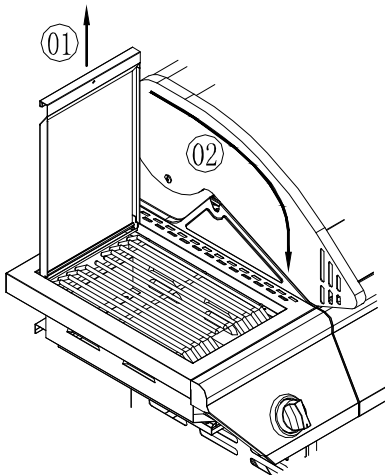
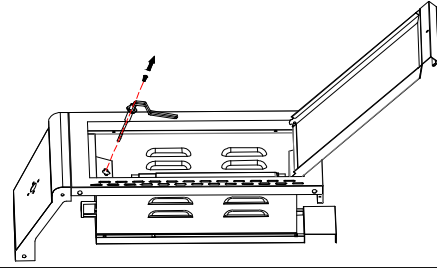
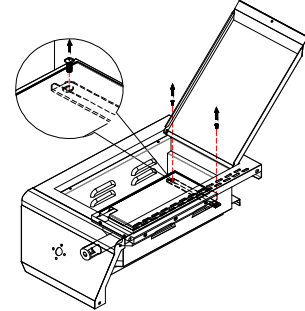

Fig.22
Fig.23
Fig.24
- (a) Remove the side burner igniter. See Fig.22. Remove two screws at the back of side burner bowl, see Fig.23, then pull out of side burner. See Fig.24.